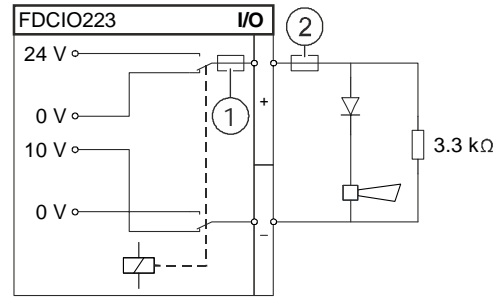

Fig. 9
- Fig. 9 Control line featuring reversed-polarity monitoring